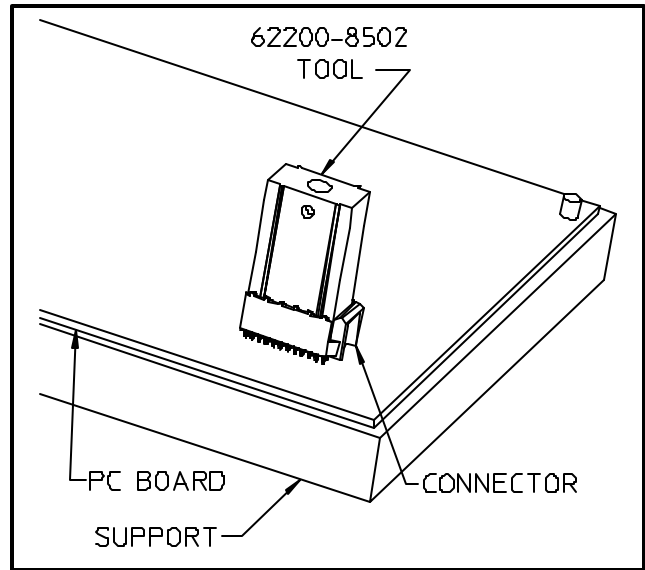

Fig. 2-9
3. Locate the proper tool in each connector, carefully checking alignment. (See Fig. 2-9)